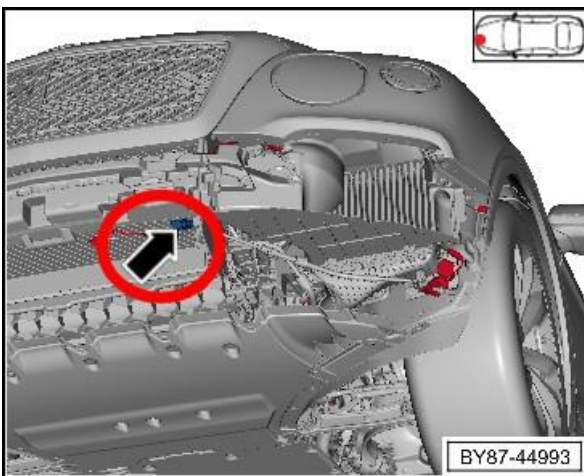

Figure 1
- Gain access to High pressure sensor G65 (Figure 1)